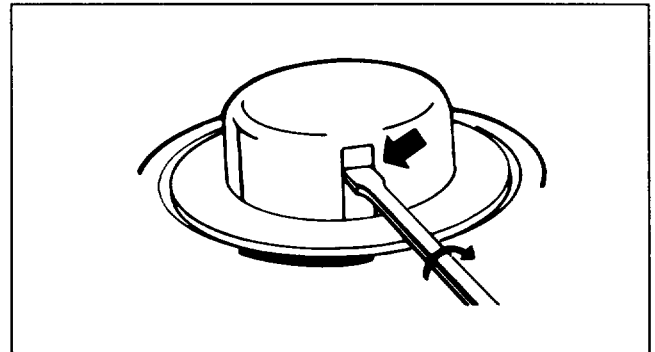

Figure 22
## CLEANING TRIMMER HEAD (Figs. 22 & 23)
2. Insert medium blade screwdriver in one of two windows slots on spool hub and twist screwdriver 1/4 turn (Fig. 22). Spool will snap off.